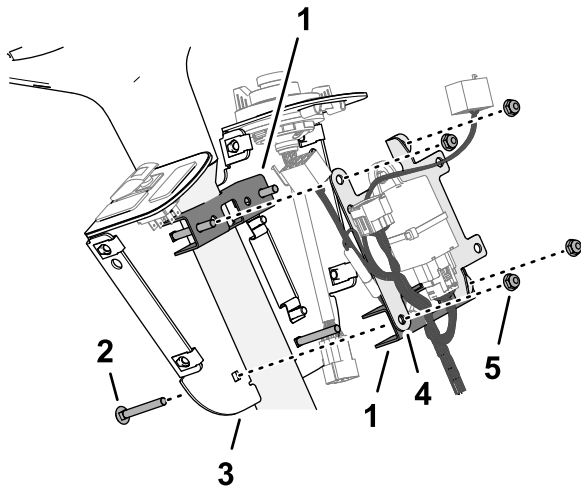

Figure 33
1. Align the switch plate to the rearward side or the steering column (Figure 33).
- Assemble the fuse mount plate to the upper bracket mount and carriage bolts (Figure 33) with 2 flange locknuts (1/4 inch).
- At the lower 6.4 mm (1/4 inch) holes, assemble 2 carriage bolts (1/4 x 2 inches) through the switch plate, bracket mount, and fuse mount plate (Figure 33) with 2 carriage bolts (1/4 x 2 inches) and 2 flange locknuts (1/4 inch).